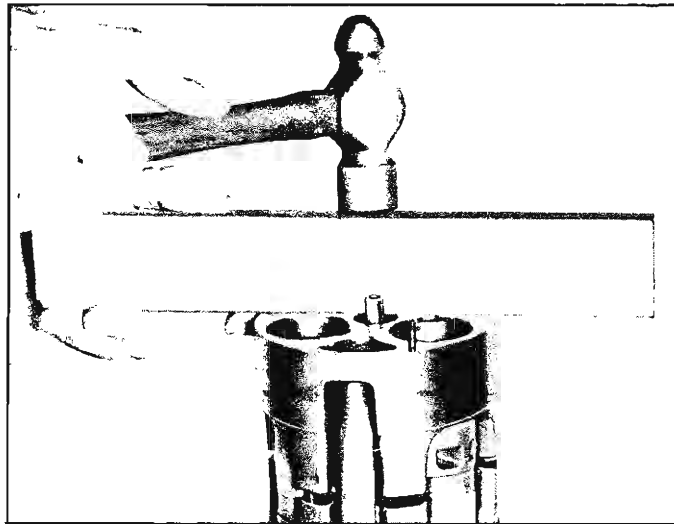

Fig. 44—Assembling Cylinder Halves
10. Align the rear head casting with bores, suction passage, discharge crossover holes, and dowel pins. Tap into place, using a plastic block and mallet (fig. 44).